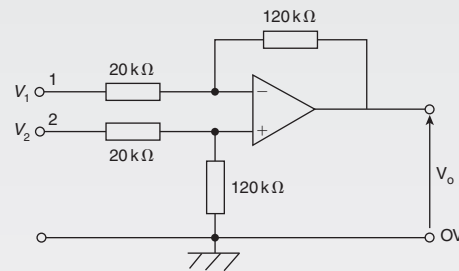

Figure RT5.2
- In the differential amplifier shown in Fig. RT5.2, determine the output voltage, V_0 when: